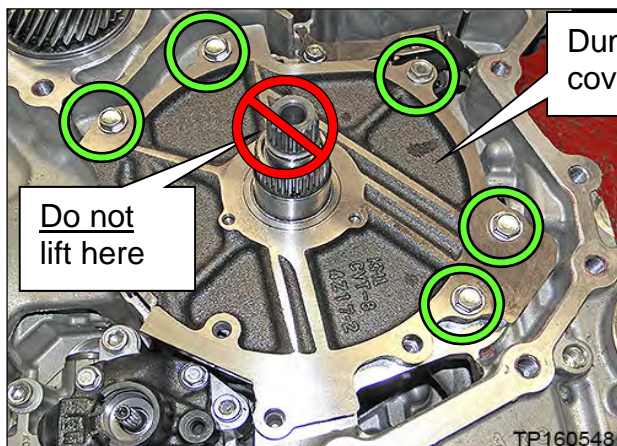

Figure 50
28. Remove the five (5) dummy cover bolts, and then remove the dummy cover. (Figure 50).
- Lift the dummy cover from the sides **ONLY**. Do **NOT** lift from the input shaft (Figure 50); this can lift the clutch pack out.